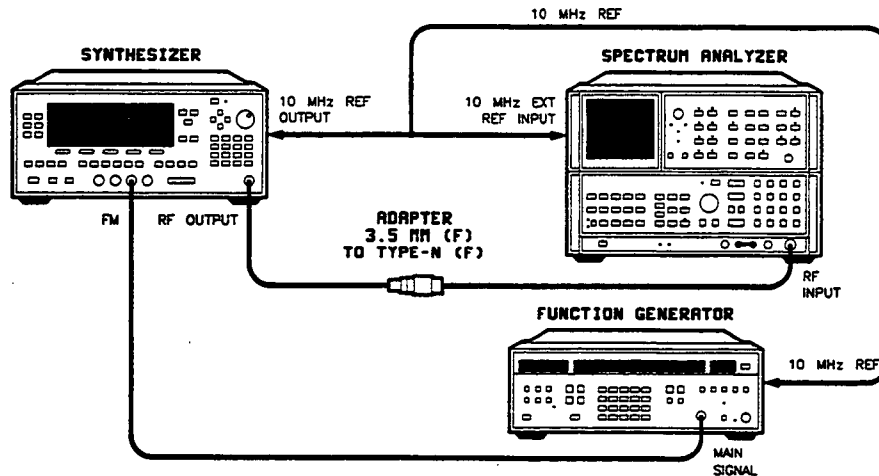

Figure 2-22. FM Accuracy Test Setup
1. Connect the equipment as shown in figure 2-22. Preset all instruments and let them warm up for at least one hour.